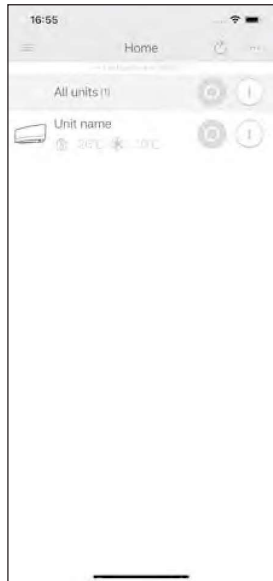

Fig. 1
7. Open the Home screen of the DAIKIN Mobile Controller application. The air conditioner will be listed there (Fig. 1).